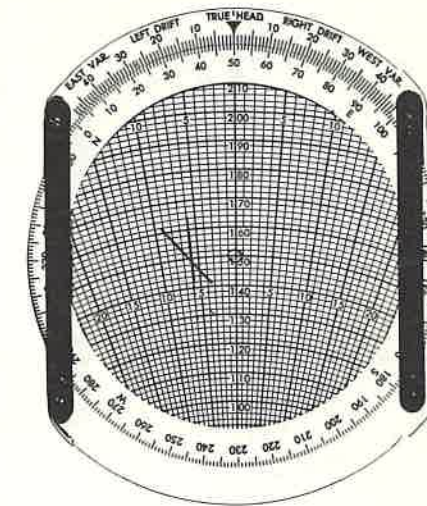

FIG. 5d
9. Place TH-1 (50 deg.) at the True Heading Index and TAS-1 (150 mph.) under the grommet. (See Fig. 5d)